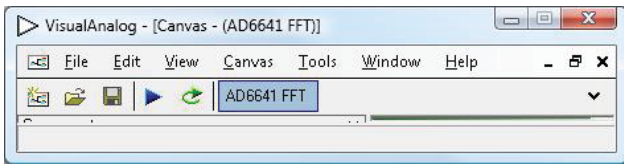

Figure 11. VisualAnalog Window Toolbar, Collapsed Display
- After the changes are made to the capture settings, click **Collapse Display** (see Figure 11).